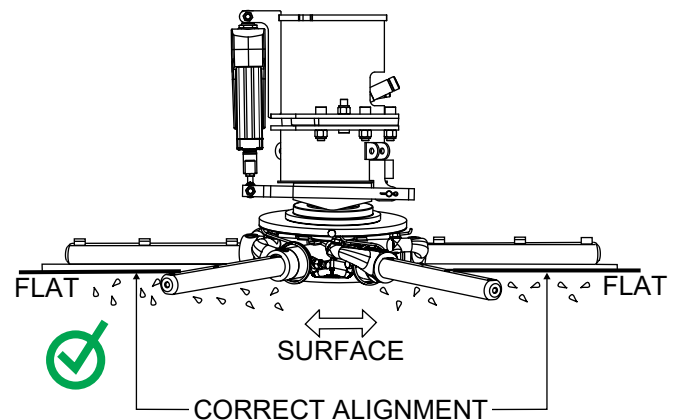

Figure 45. Correct Spider Alignment
2. Pitch the blades as flat as possible. The adjustment bolts should all barely make contact with the lower wear plate on the spider. Figure 45 illustrates the correct alignment for a spider assembly as shipped from the factory.